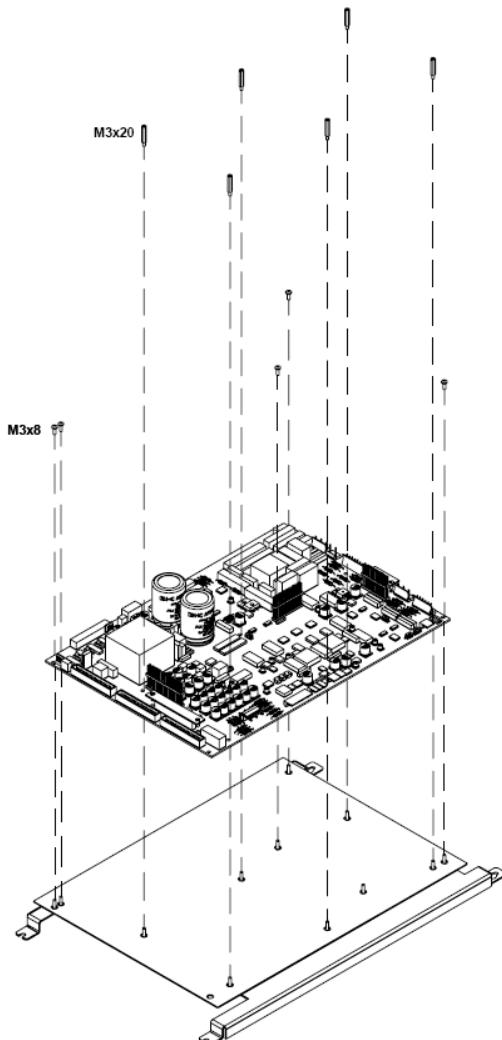
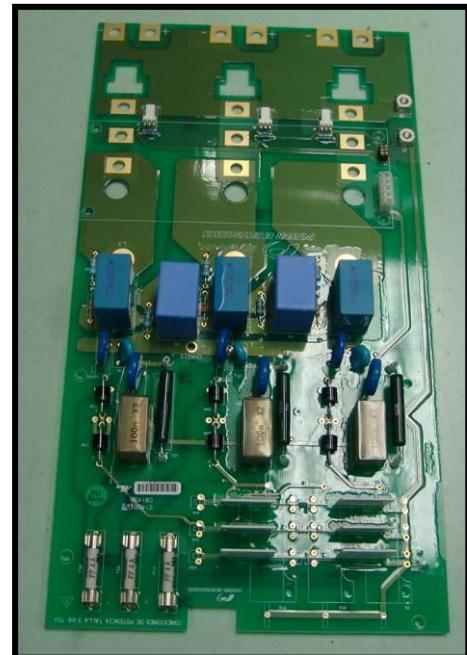
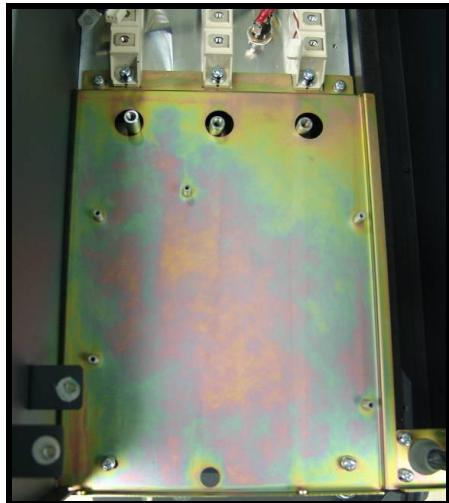

Figure 7.3.7. Disassembly of the power board
Figure 7.3.10. Disassembly of the power connections board
Figure 7.3.16
- 5) Put the board on the electronic tray, matching the bolts of the tray with the holes of the board (see figure 7.3.7).
Before proceeding, you should remove the embellishers (see section 7.3.1), the tray for the boards (see figure 7.3.7), and the pluggable PCB of the trigger thyristors (see section 7.3.7).
- 4) Remove the 5 Phillips screws **M3x6 DIN-7895H**. See figure 7.3.10.
- 4) Put the board in the correct position as the figure 7.3.10 shows, matching the holes with the thyristors, the choke and with the bus.
Before proceeding, you should remove the embellishers (see section 7.3.1), the tray for the boards (see figure 7.3.7), the pluggable PCB of trigger thyristors (see section 7.3.7), and the power connections board (see figure 7.3.10).
Before removing the upper Gate Drive board, you should remove the embellishers (see section 7.3.1) and the tray for the boards (see figure 7.3.7).
Before removing the medium and lower Gate Drive board, you should remove the embellishers (see section 7.3.1), the tray for the boards (see figure 7.3.7), the power connections board (see section 7.3.8) and the upper Gate Drive board (see section 7.3.10).
Before removing the transformers, you should remove the embellishers (see section 7.3.1) and the tray boards (figure 7.3.7).
In order to remove the AC choke, first, you should remove the embellishers (see section 7.3.1), the tray for the boards (see figure 7.3.7), the power connections board (see section 7.3.8), the DC bus (see section 7.3.9), and the tray where the connections board is supported (see figure 7.3.16).